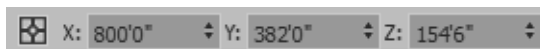

Figure 3–41
19. In the **Front** viewport, use (Zoom Region) and create a rectangular window around the building to zoom into the building. Verify that the **Standard** shading label displays. Select the **[Wireframe] Per View** label and select **Default Shading**. Then, select **Default Shading** again and select **Edged Faces** to define the windows and doors. The building should display similar to that shown in Figure 3–42.